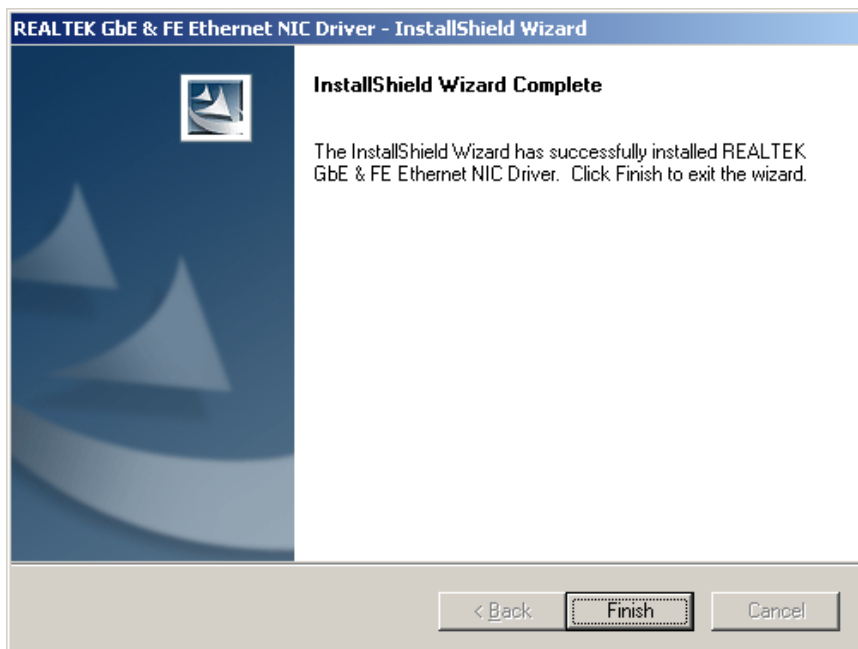

Figure 6-11: Realtek LAN Driver Installation Complete
Step 5: After the driver installation process is complete, a confirmation screen appears (Figure 6-11).